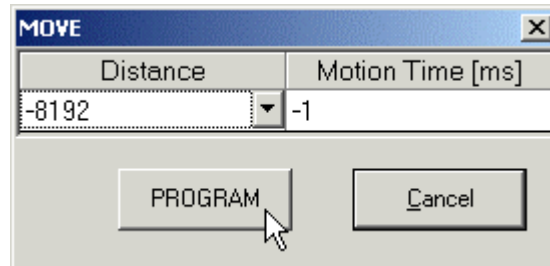

Figure 18: Sample Command Pop-up Dialog Box
2. Double-click the required command to open a pop-up dialog box (Figure 18) relating to the command.